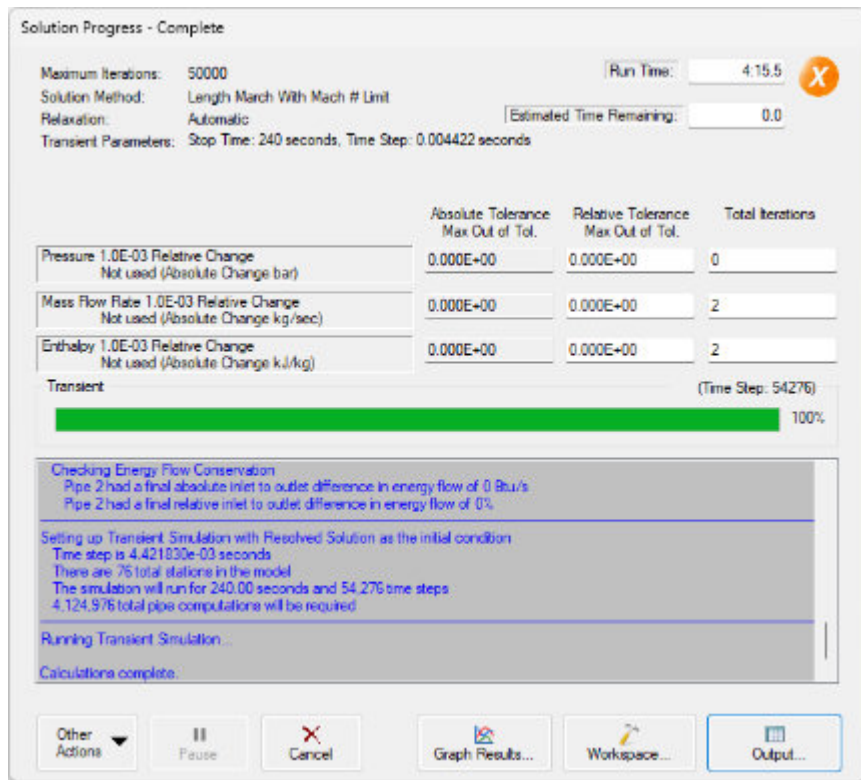

Figure 2.18 The Solution Progress window displays the state of the simulation
- **Choose Run Model... from the Analysis menu** or click the Run Model button on the Common Toolbar. During execution, the Solution Progress window is displayed and can be used to pause or cancel the Solver's activity (Figure 2.18). Note that the Time Step is also shown on the Solution Progress bar to help identify the point of failure in the event of a failed convergence.